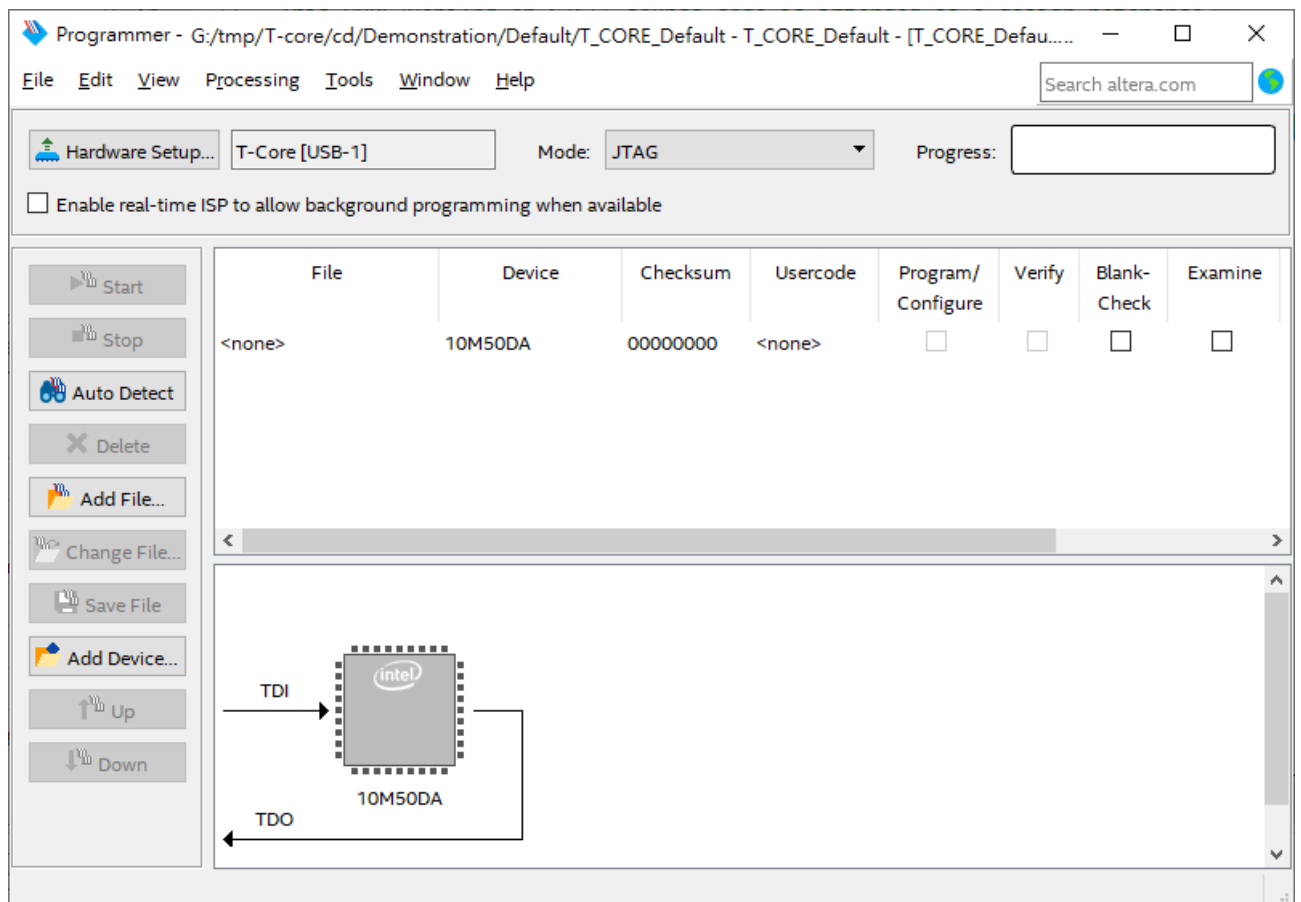

Figure 2-7 FPGA detected in Quartus Prime programmer
6. FPGA is detected, as shown in Figure 2-7.